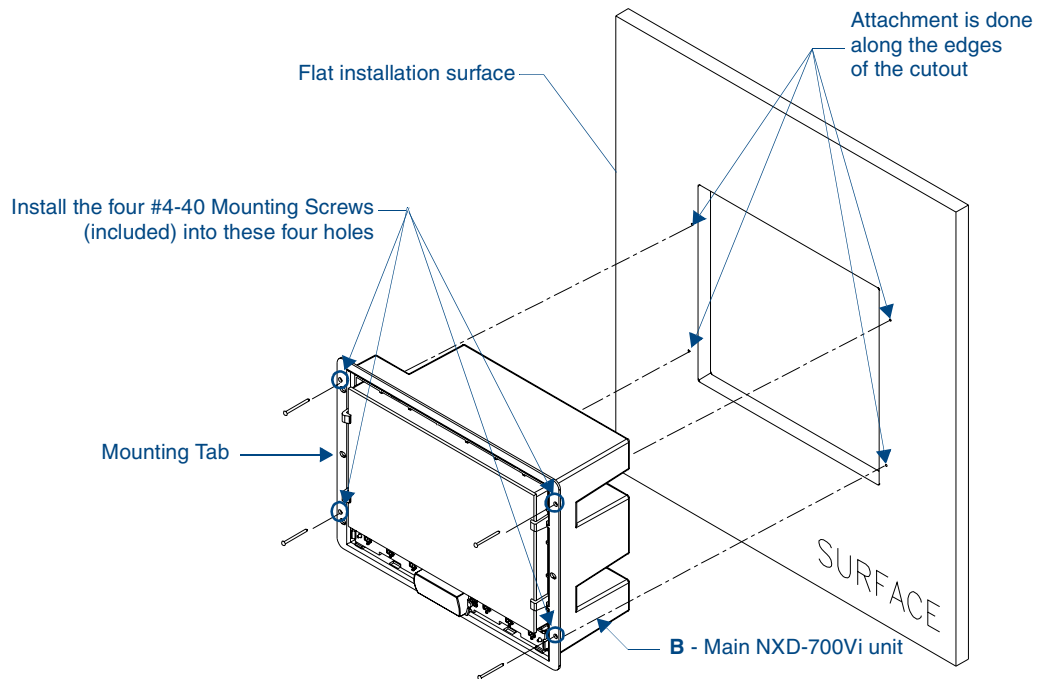

FIG. 16 Wall Mount panel installation configuration for flat surfaces
3. Remove the Faceplate/bezel (A in FIG. 16) from the main NXD unit (B in FIG. 16) by gripping the faceplate and pulling with gentle outward force.
9. Insert and secure four #4-40 Mounting Screws (included) into their corresponding holes located along the sides of the NXD-700Vi (using a grounded Phillips-head screwdriver) until the unit is secure and flush against the wall (FIG. 16).
10. Place the Faceplate/Trim Ring assembly (A in FIG. 16) back onto the main unit (B in FIG. 16). *Make sure to align the Microphone, Light, and PIR Motion sensor locations to their respective openings on the front bezel/faceplate.*